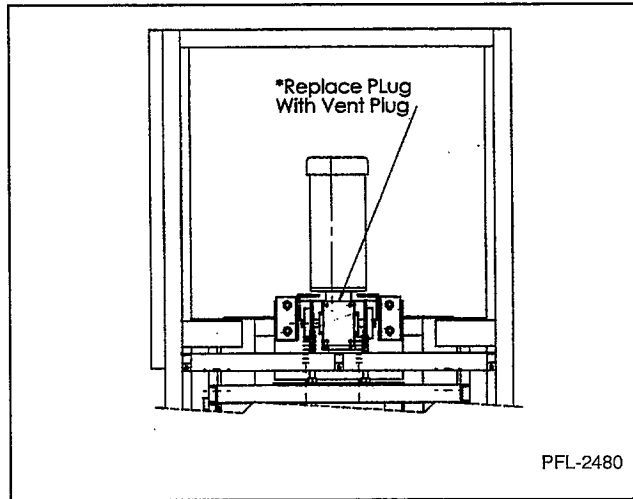

Figure 1
1. Substitute the plug in the top of the gear reducer for the vent plug shipped with the installer packet. See Figure 1.